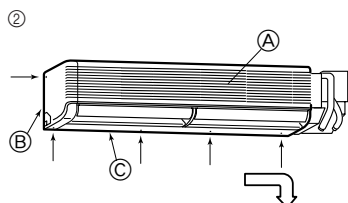

Fig. 3-8
- ② Remove the five screws indicated by the arrows in the diagram. (Fig. 3-8)
- ③ Remove the left side panel, then the lower panel.